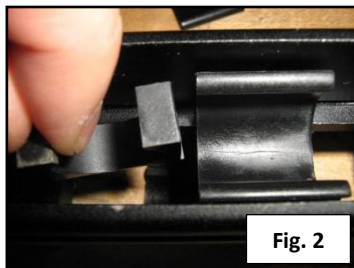

Fig. 2
- C. Insert the first Retainer Clip into the space where the Plastic Retainer was removed (Fig. 2).